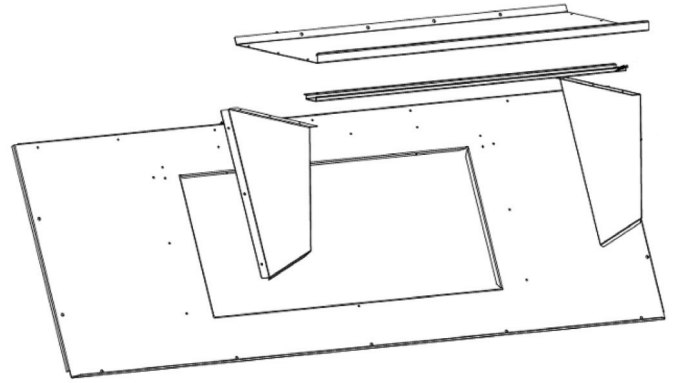

Fig. 32 — Barometric Hood Exploded View
3. Install parts as shown in the following exploded view (Fig. 32) using the seal strip and screws provided in the parts box.